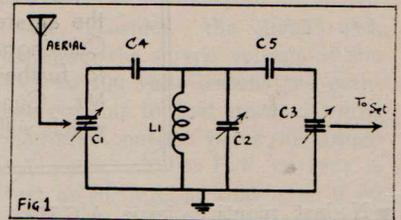
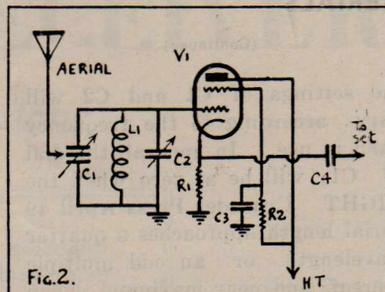

Fig 1
Fig. 2.
The circuit of the unit is shown in Fig. 1. Using the component values specified, any aerial up to 150 feet in length can be matched on any frequency higher than about 3.5 Mc/s. To be fully effective on frequencies lower than this, it is necessary to increase the value of C4 and C5 to about 20 pF. Conversely, at the higher frequencies—for instance, the 28 and 14 Mc/s amateur bands, some
A second method of ensuring correct matching is shown in Fig. 2. This involves the use of a valve, but cuts out one variable adjustment and is, on the whole, somewhat better where it is desired to cover a wide range of frequencies. The first portion is practically identical with that of Fig. 1. The signal is fed into the grid of a pentode valve, which is used as a cathode follower, the output to the receiver being taken from the cathode *via* a condenser, to prevent the bias-cum-load resistor being short circuited.
In the circuit of Fig. 2 the output impedance remains constant, irrespective of frequency, but it is still necessary, of course, to match the aerial to the tuned circuit by adjustment of C1. One feature of the cathode follower circuit is the very high input impedance which, in effect, will sharpen the tuning of the L1/C2 combination and give added selectivity. Admittedly, the valve itself will not provide any additional gain, but the improved matching and the increased selectivity will result in a definite improvement in the performance of a receiver with which the unit is used.
Components List (Fig. 1)
Components List (Fig. 2)
- C1, C2 and L1 as in Fig. 1.